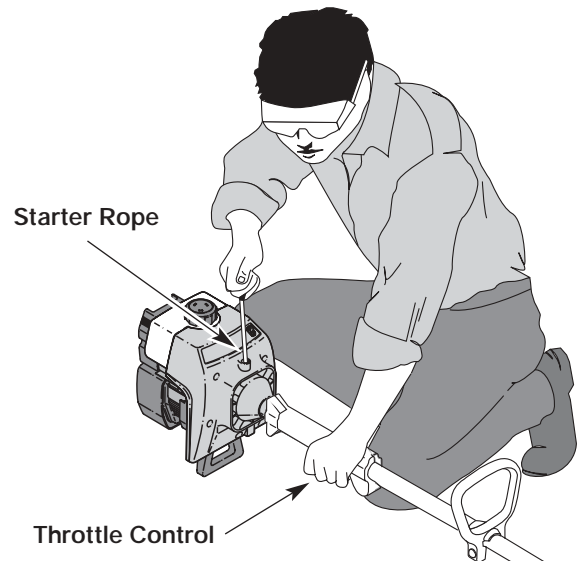

Fig. 8
**WARNING:** Avoid accidental starting. Make sure you are in the starting position when pulling the starter rope (Fig. 8). To avoid serious injury, the operator and unit must be in a stable position while starting.
5. With the unit in the starting position (Fig. 8), squeeze the throttle control to the wide open (full throttle) position. Pull the starter rope briskly 5 times while still in the **FULL** choke (A |←|) position. If the engine attempts to run before the fifth pull, proceed to step 6.
7. Pull starter rope briskly 1 to 3 times to start the engine (Fig. 8).
1. Release your hand from the throttle control (Fig. 8). Allow the engine to cool down by idling.